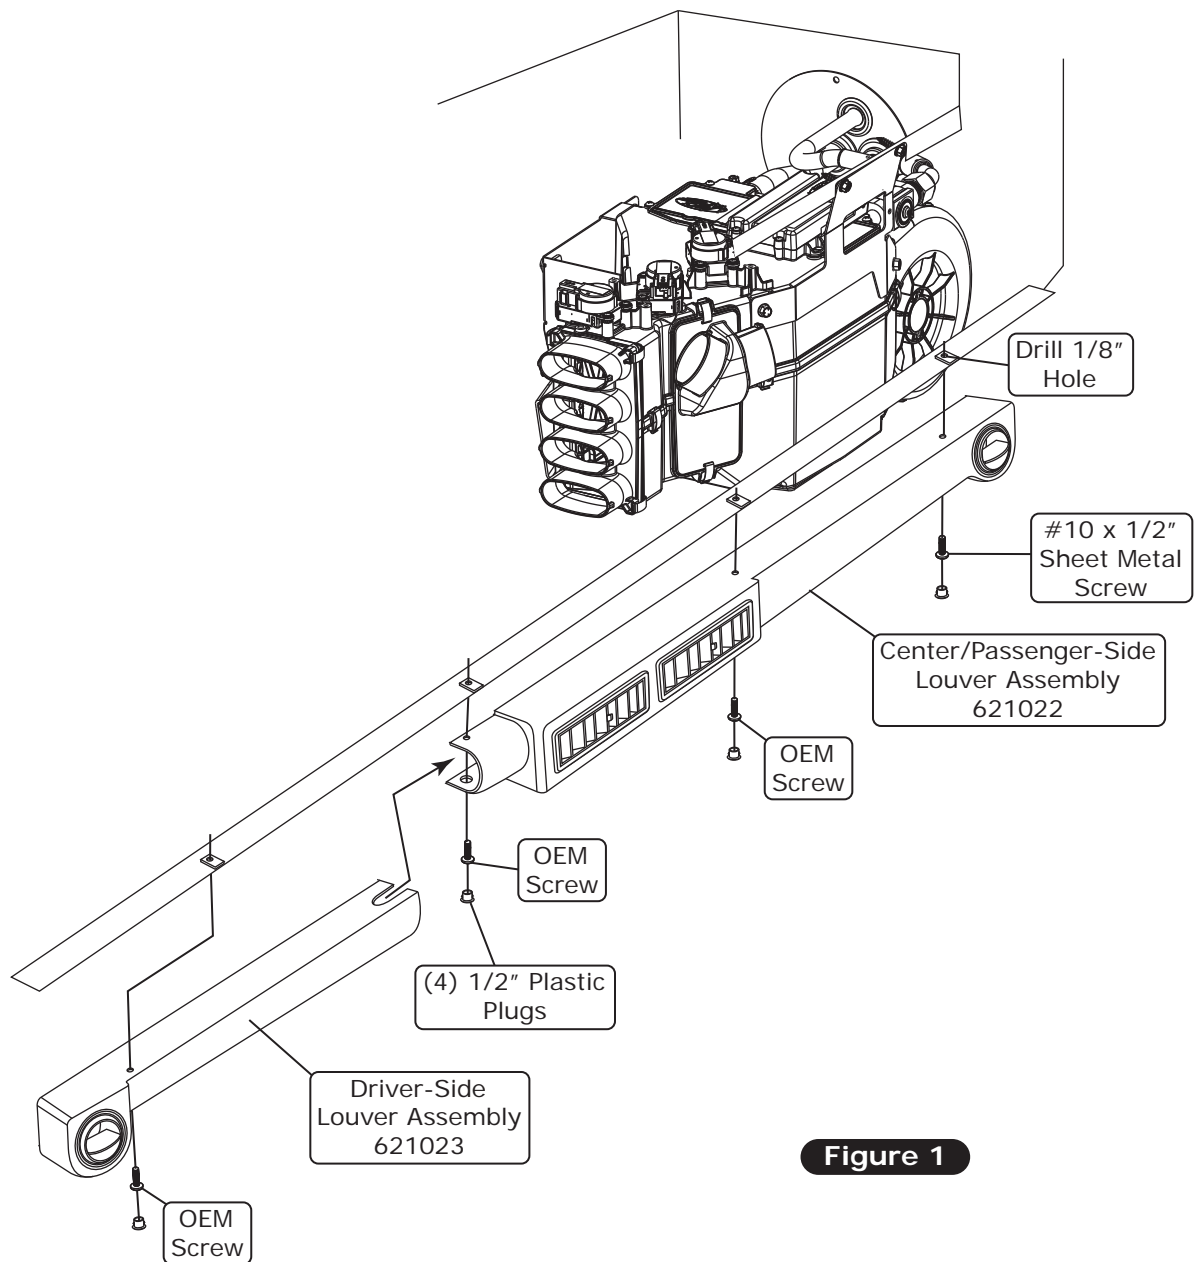

Figure 1
3. Insert (4) 1/2" plastic plugs into the louver assemblies as shown in Figure 1, below.
1. Install the duct hoses as shown in Figure 1, Page 18.